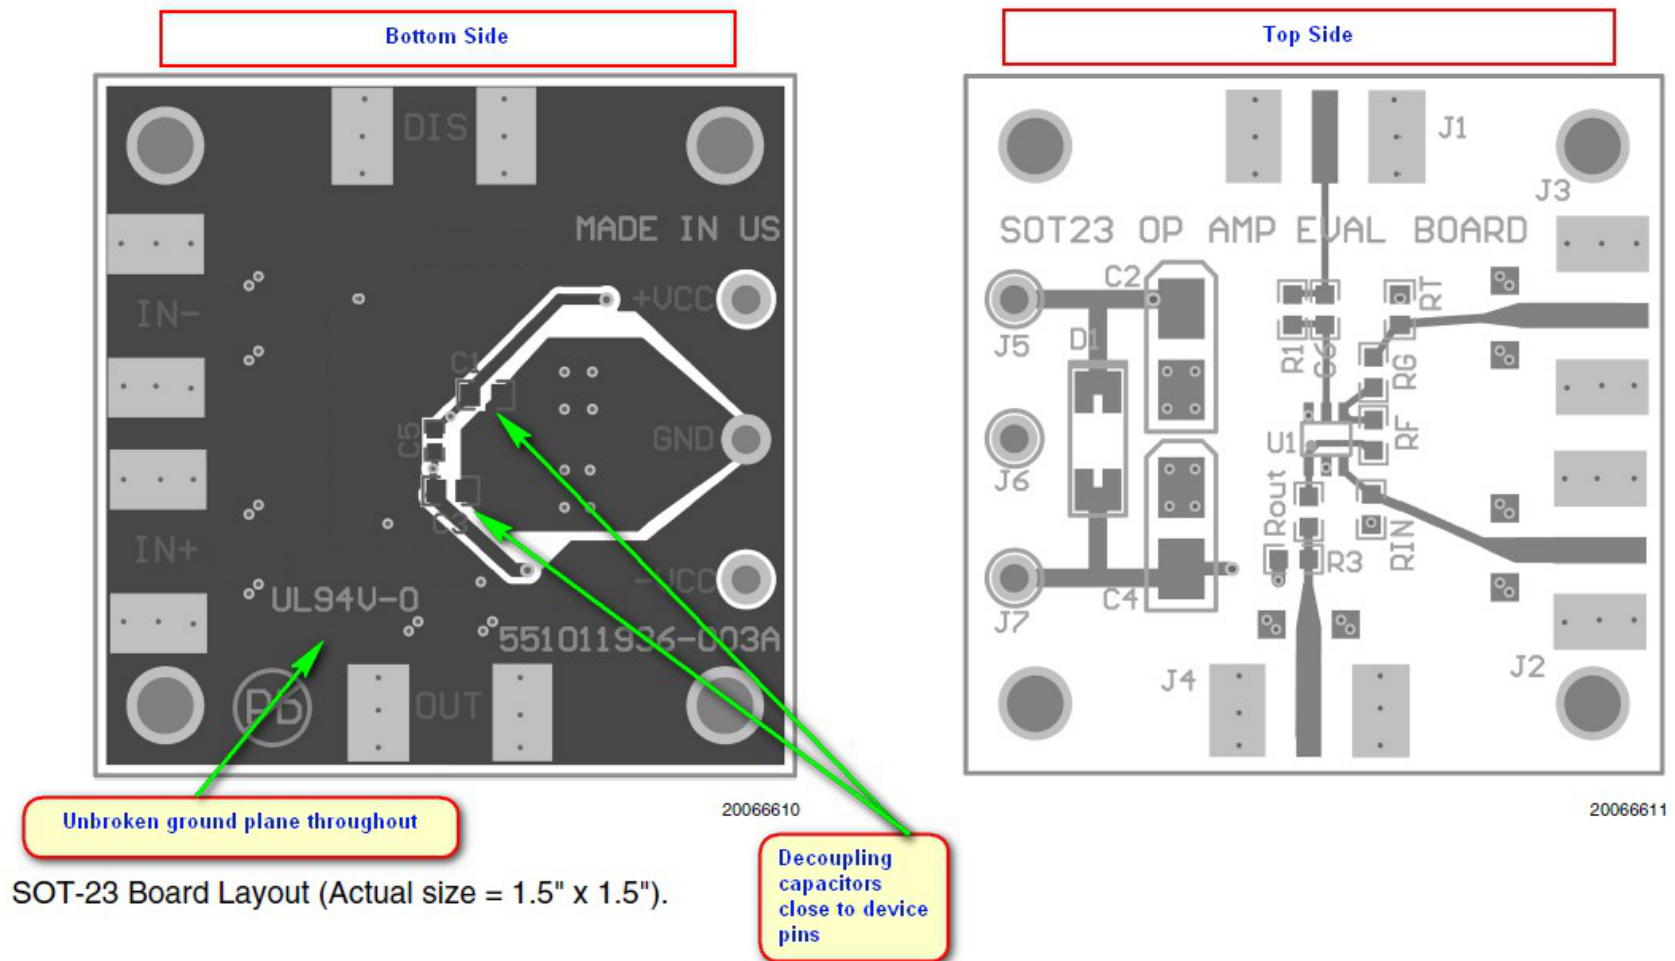

Figure 20. SOT-23 Board Layout Example
1. Power supply bypassing is critical, and will improve stability and eliminate possible output chatter. A decoupling capacitor such as 0.1- μ F ceramic should be placed as close as possible to V^+ pin (and to V^- pin if used with dual supplies) as shown in Figure 20. An additional 2.2- μ F tantalum capacitor may be required for extra noise reduction.
4. Use a PC board with a good, unbroken low inductance ground plane as shown in Figure 20. Make sure ground paths are low-impedance, especially where heavier currents are flowing.